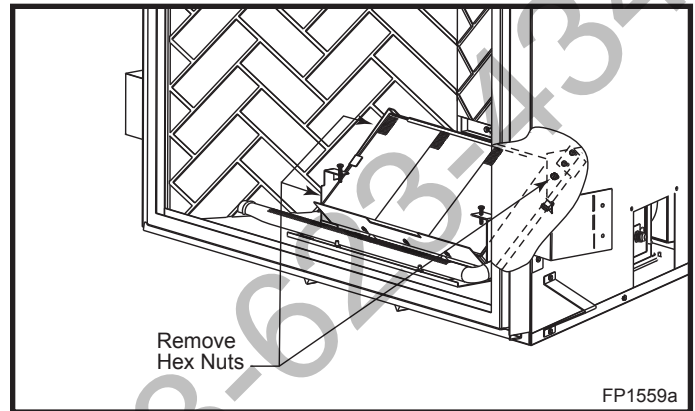

Fig. 55 Use 3/8" socket to remove hex nuts holding left burner leg.
4. Using a 3/8" hex, remove two (2) hex nuts holding the left burner leg and remove the two (2) hex nut that tie the burner housing to the right and left burner leg. Remove burner leg. (Fig. 55)